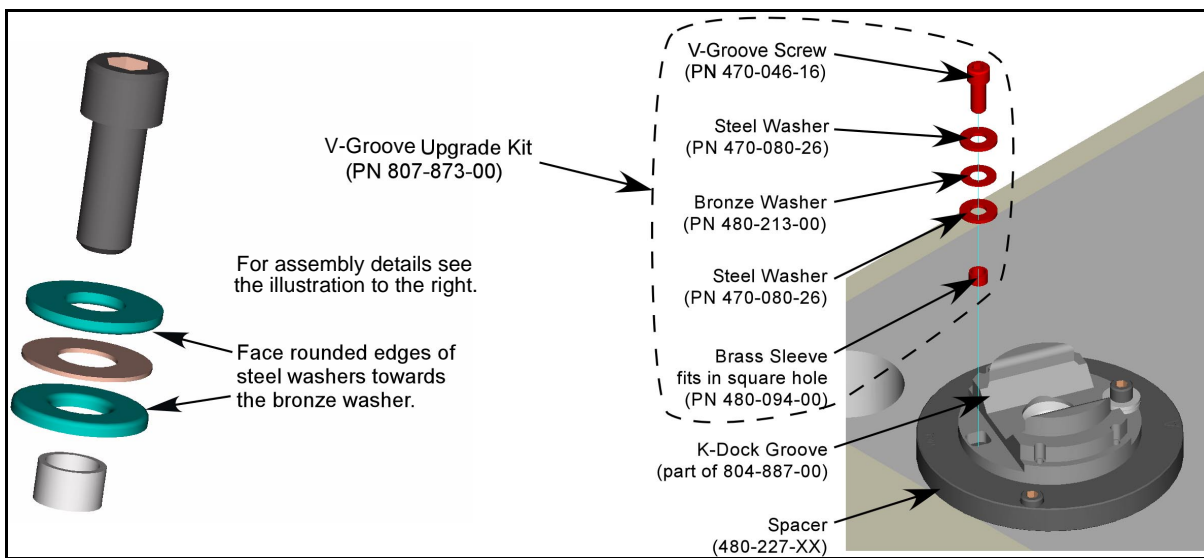

Figure 6 V-Groove Screw Assembly
- 7) Assemble the V-groove screws (pn 470-046-16), brass screw sleeves (pn 480-094-00), steel washers (pn 470-080-26) and bronze washers (pn 480-213-00) from the V-groove Upgrade Kit (pn 807-873-00) in the following order: steel washer (against screw head) followed by the bronze washer, steel washer, and brass sleeve. See Figure 6. Repeat for all three v-groove assemblies.